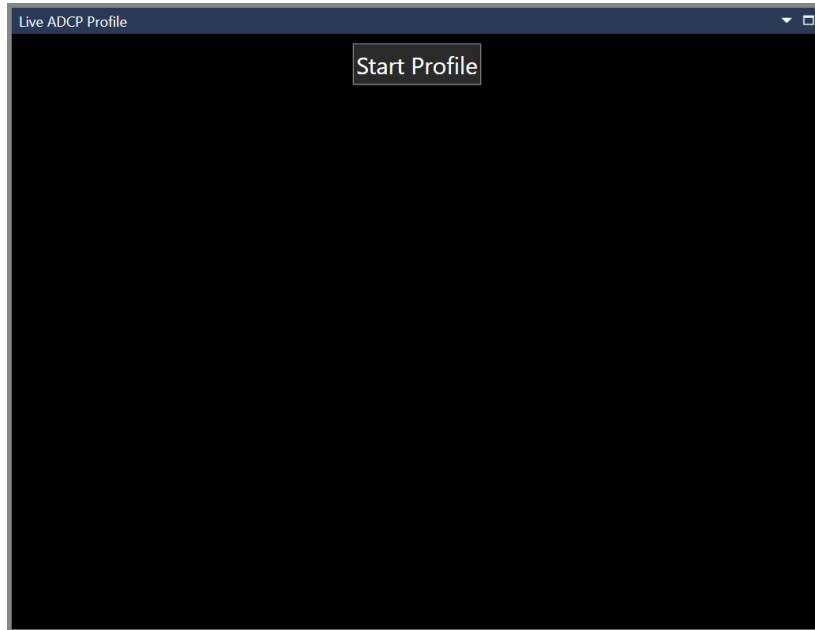

FIGURE 18-28 LIVE ADCP PROFILE – START PROFILE
1. Click Ok, this opens the Live ADCP Profile window, see Figure 18-28